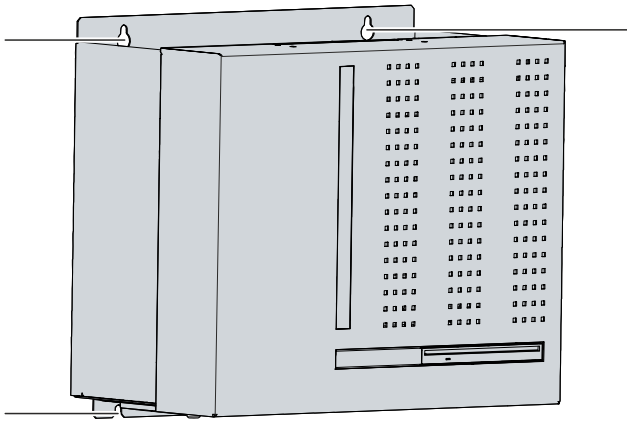

Fig. 25: C6640_positions fastening screws
2. Lift the PC far enough so that the fastening screws slip into the keyholes (see fig. 25).